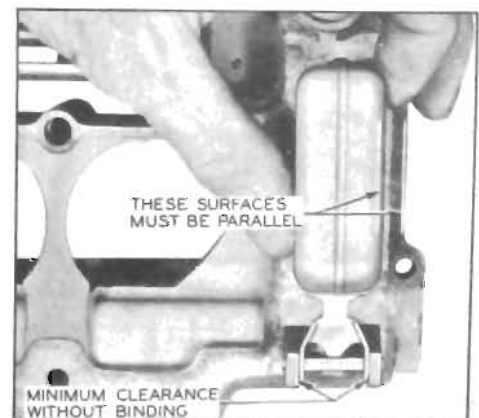

Figure 3-50—Float Alignment
9. Align Float - Sight down side of float to determine if side is parallel with outer edge of air horn. If adjustment is necessary, bend float lever by applying pressure to end of float with fingers while supporting float lever with thumb. See Figure 3-50.